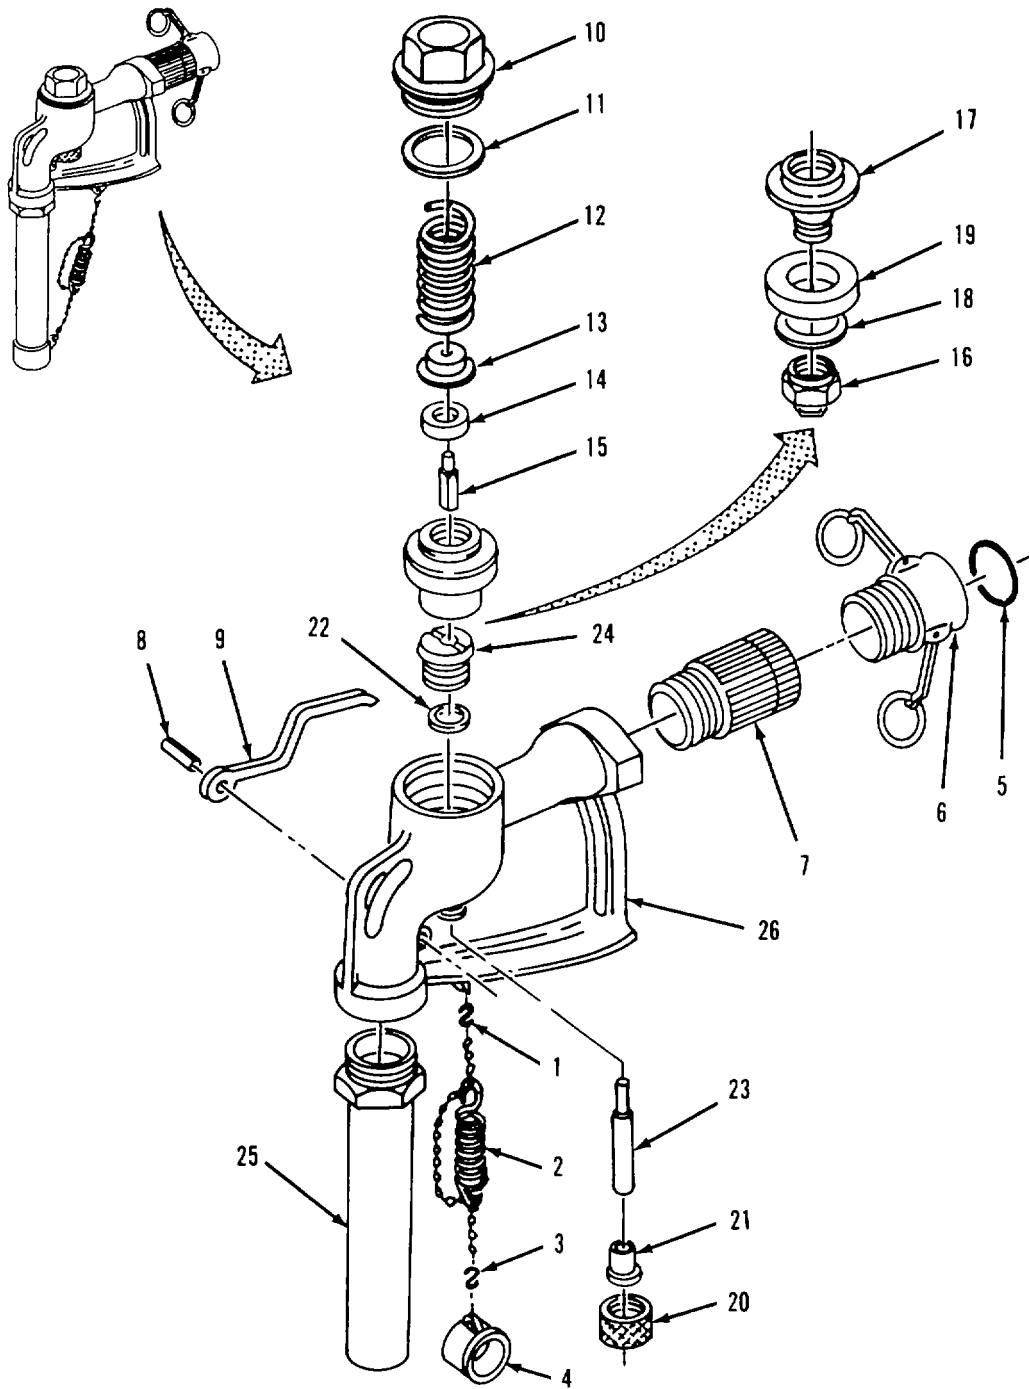

Figure 4-14. Distribution Nozzle (1 1/2-inch) Disassembly.
- a. Disassembly. Refer to figure 4-14.
- (1) Disconnect S-hook (1) from body (26).
- (2) Remove S-hook (1) from chain and spring (2).
- (3) Remove tube cap (4) and S-hook (3) from chain and spring (2) Disconnect S-hook from tube cap.
- (4) Remove gasket (5) from female coupling (6).
- (5) Remove swivel (7) and female coupling (6) from body (26).
- (6) Unscrew female coupling (6) from swivel (7).
- (7) Drive out groove pin (8) and remove handle (9) from body (26).